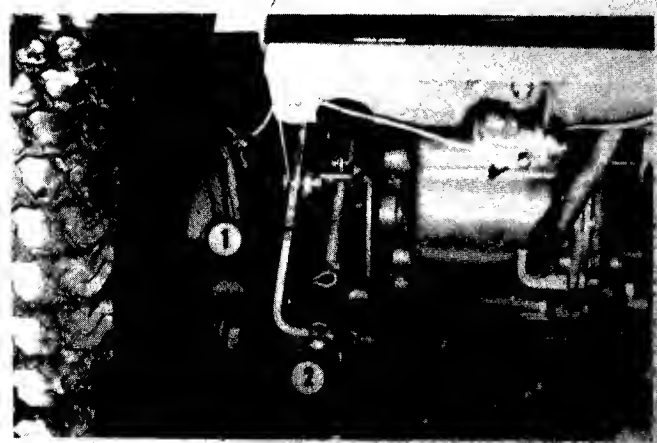

FIG. 4.35-BRAKE RETURN SPRING
10. Disconnect brake return spring from cotter key at left rear of tractor frame and remove PTO plate assembly, if equipped. Fig. 4.35.
5. Connect brake return spring. Fig. 4.35.